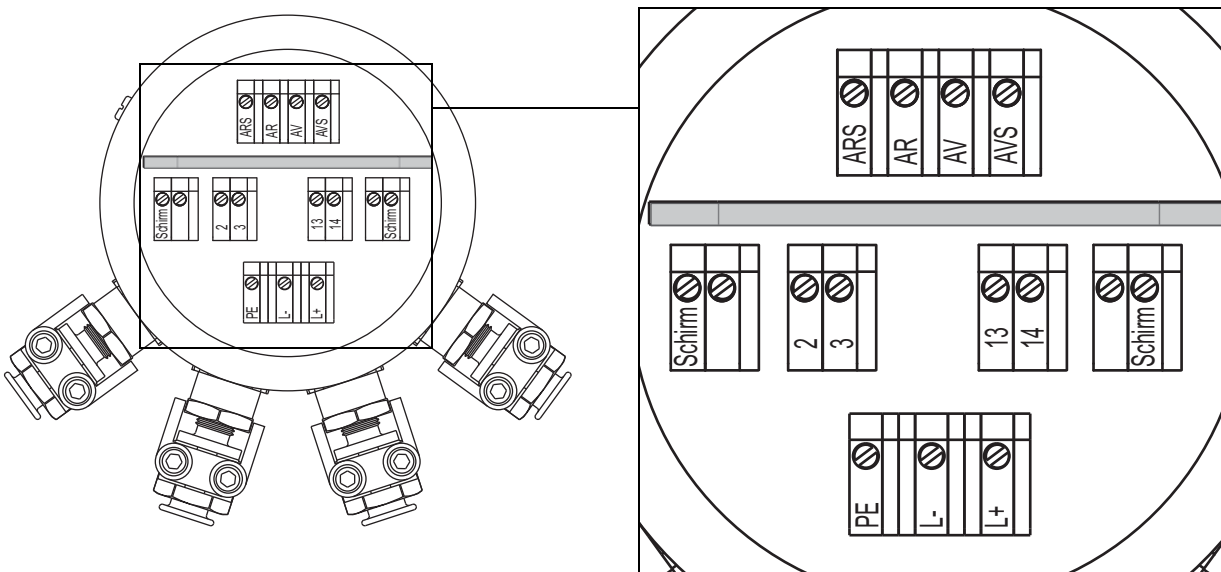
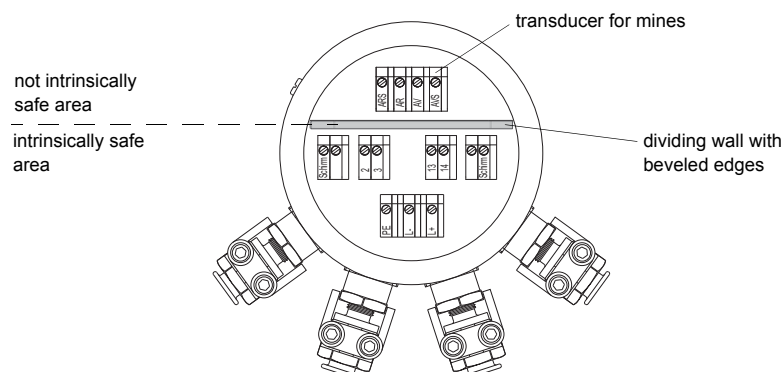
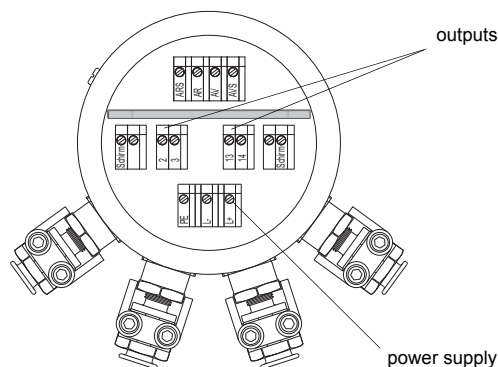

Fig. 8.3: Terminal designation of the transmitter
Fig. 8.5: Terminals for the connection of the transducer for mines
Fig. 8.8: Terminals for the connection of the power supply and the outputs
- Insert the cables via the beveled edges of the dividing wall into the not intrinsically safe area of the connection compartment (see Fig. 8.5).
- Connect the leads to the terminals of the transmitter. The stripped twisted end of the external shield that is to be connected to the terminal has to be as short as possible (see Fig. 8.3, Fig. 8.5 and Tab. 8.1).
- Connect the leads to the terminals of the transmitter (see Fig. 8.3, Fig. 8.8 and Tab. 8.2).
- Fix the screwed socket (1) and the gland body (4) to the clamp by firmly tightening the screws of the clamp.
- Connect the leads to the terminals of the transmitter (see Fig. 8.3, Fig. 8.8 and Tab. 8.3).